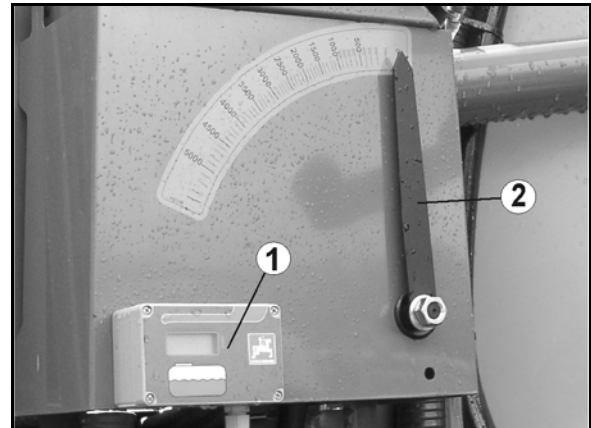

Fig. 53
- electronically (Fig. 53/1) (optional)
- mechanically (Fig. 53/2)